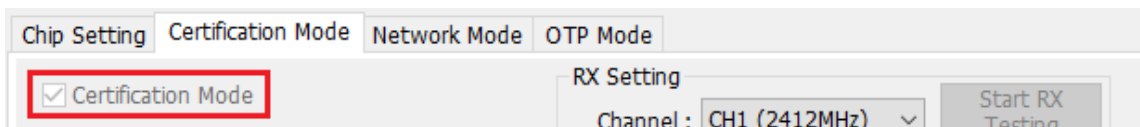

Figure 8: Certification Mode Tab
- Alternatively, on the **Certification Mode** tab, select the **Certification Mode** checkbox. See Figure 8.